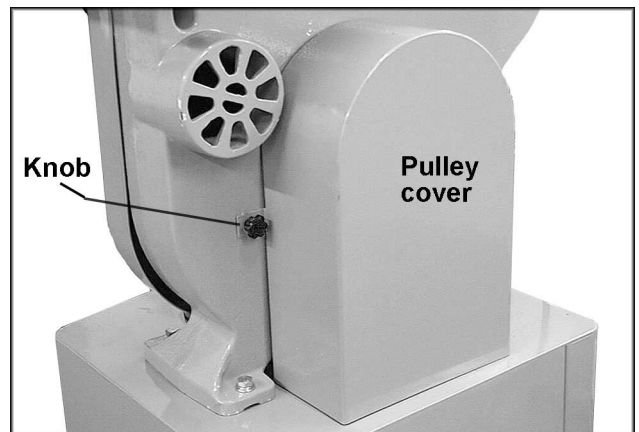

Fig. 5
- Screw the two small knobs (Fig. 5) into the threaded holes in the saw body. Slide the pulley cover down over the knobs, and tighten the knobs.